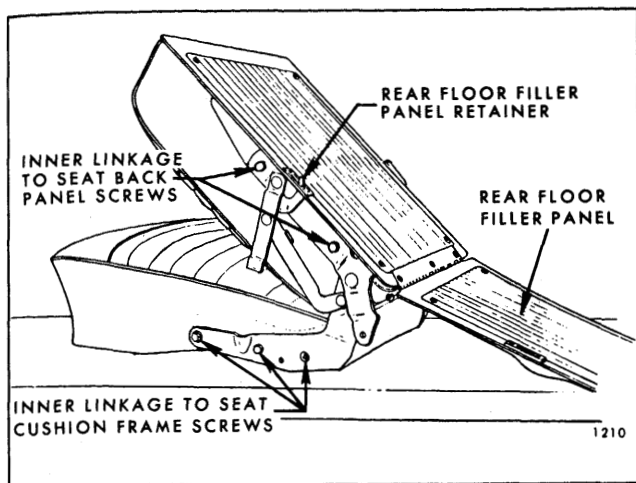

Fig. 10-71—Folding Second Seat Inner Linkage
3. Remove three screws securing seat inner link to cushion frame (Fig. 10-71); then remove seat cushion and frame assembly from linkage. If required, remove cushion front and rear floor pan linkage.
3. Remove seat inner linkage-to-seat back panel and seat cushion frame attaching screws (see Fig. 10-71); then, disengage and remove side linkage from seat.